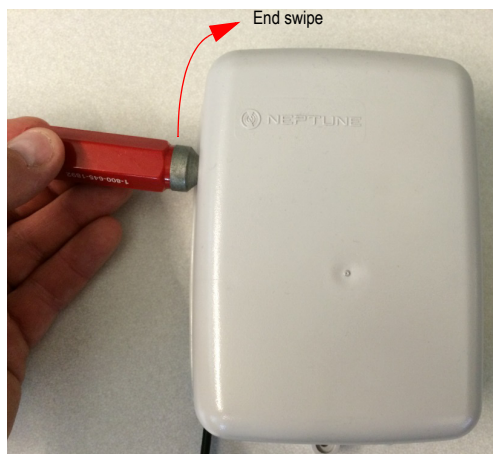

Figure 45 Activating the MIU
- 2 Position the magnet against the left side of the MIU directly in line with the Neptune logo, as shown, and swipe it bringing it from the side and around the corner to the top to activate the MIU. See Figure 45.